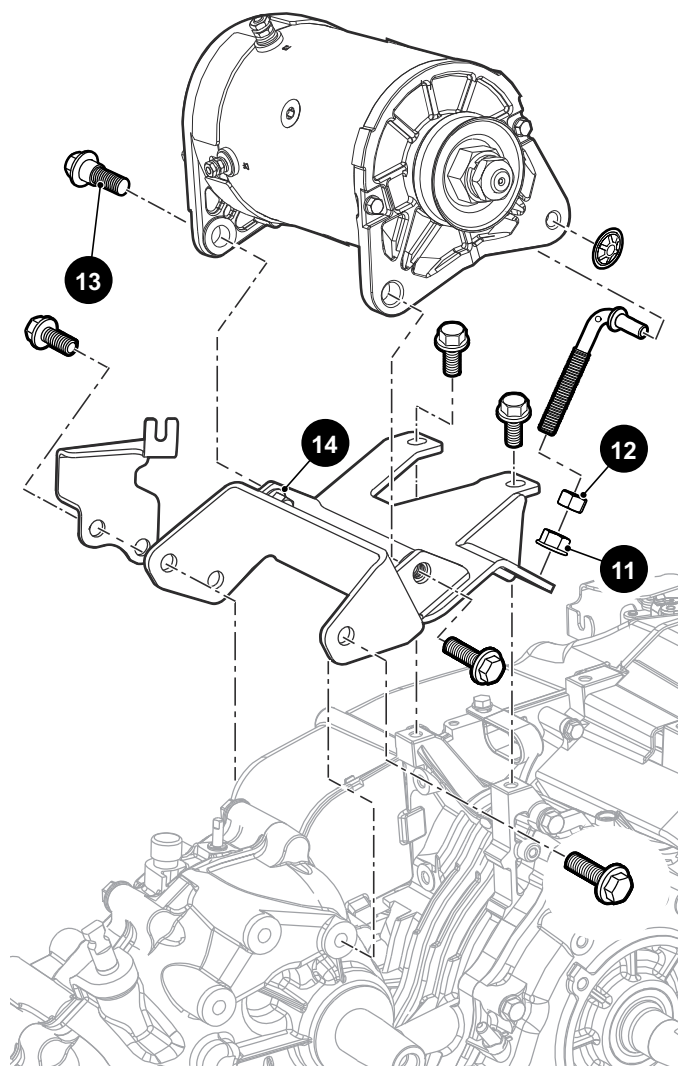

Figure 12 Starter/Generator
Move the lower nut (11) up or down the adjustment bolt until proper belt tension is achieved. Hold the lower nut (11) in place and tighten the upper jam nut (12) against it the lower nut to the specified torque value (Figure 12).
Remove the wires connected to the starter/generator. Loosen the jam nut (11) and the adjusting nut (12) securing the starter/generator adjuster until the starter/generator belt can be removed from the drive clutch. Remove the starter/generator pivot bolts (13) and lift starter/generator from the vehicle (Figure 12).